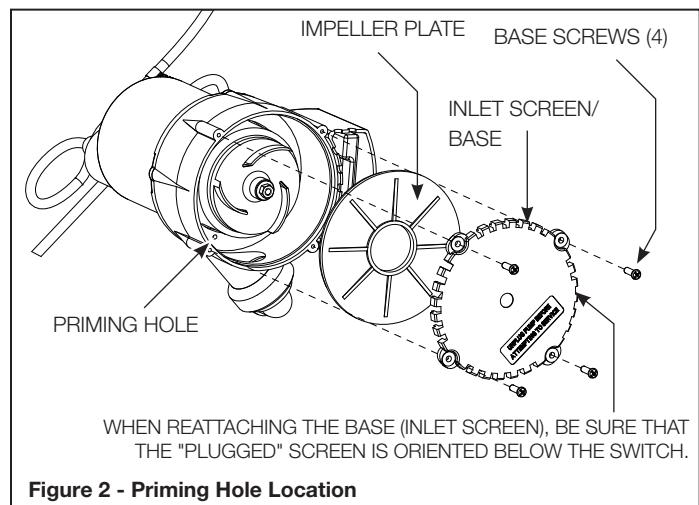

Figure 2 - Priming Hole Location
- b. Remove the four (4) base screws (Figure 2).